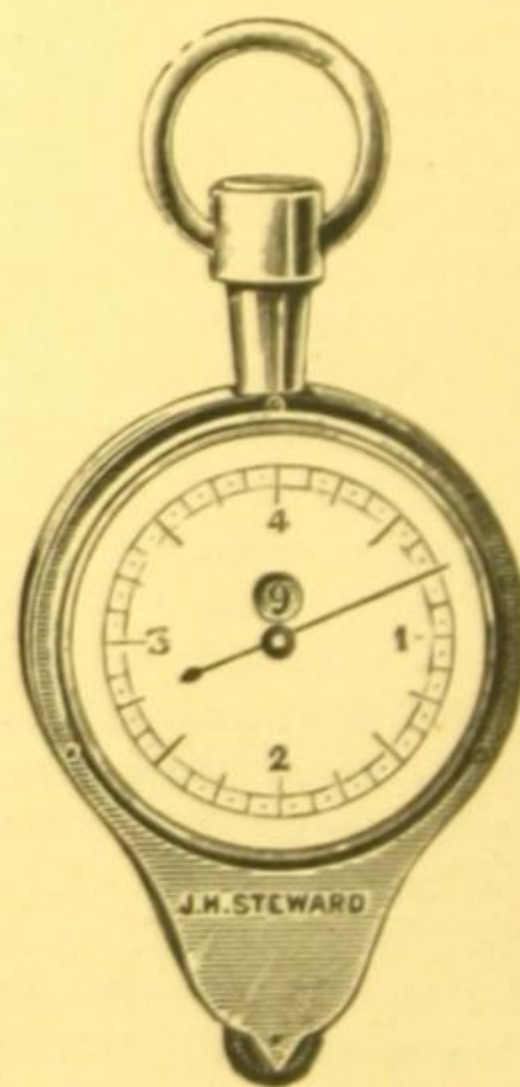

Fig. 60.
- SM 275.—**The Self-Registering Map Measurer**, with fully divided scale reading to every  $\frac{1}{16}$  of an inch, with supplemental dial registering up to 40 inches. Dial  $1\frac{1}{4}$  inches diameter.....Fig. 60   7/6